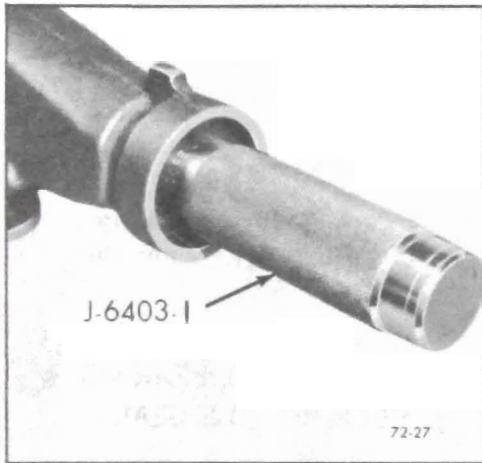

Figure 72-27 - Installing
1. Install rear bearing retainer bushing, using Tool J-6403-1. See Figure 72-27.